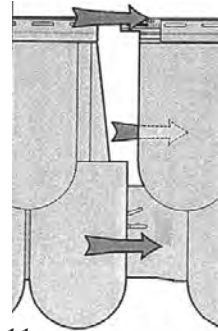

Fig.11
- Slide the next panel into position. The top half of the panel, except the nail hem, slides under, and the bottom half slides over the previous panel. (See Figure 11)